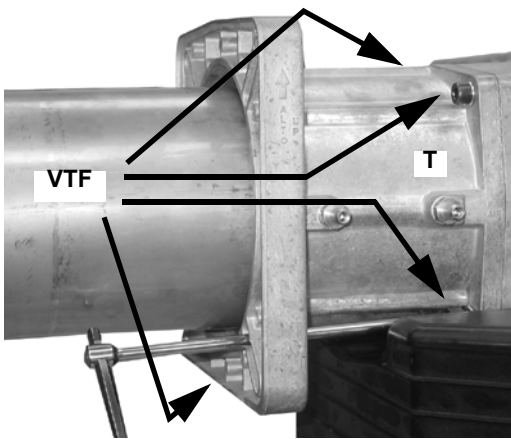

Fig. 4
- 2 Remove the flanged piece **T** by removing the 4 socket head screws **VTF** (Fig. 4).